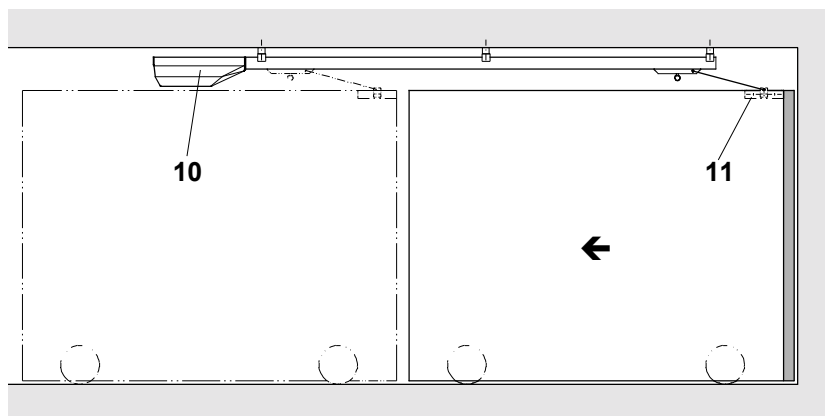

Fig. 2
A) Drive head(10) above the opened door. Fig. 2